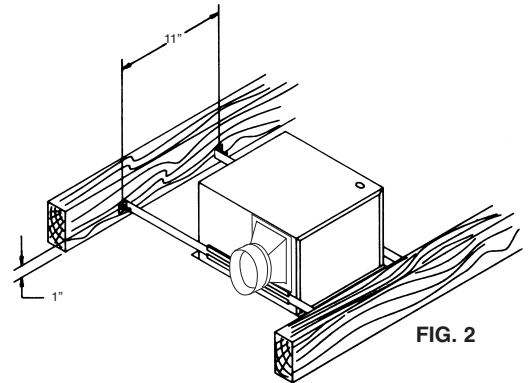

FIG. 2
4. Insert (4) mounting brackets with angels pointing away from housing. In approximate location between ceiling joists where housing will be located, drive (2) nails (4D or 6D) 1" from the bottom of the joist, 11" apart leaving 1/4" of nail projecting. Position one set of mounting brackets over nails and drop into place. Extend the remaining mounting brackets to the adjacent joist and repeat nailing procedure. Finish driving nails and adjust housing between ceiling joist. See Fig.2.